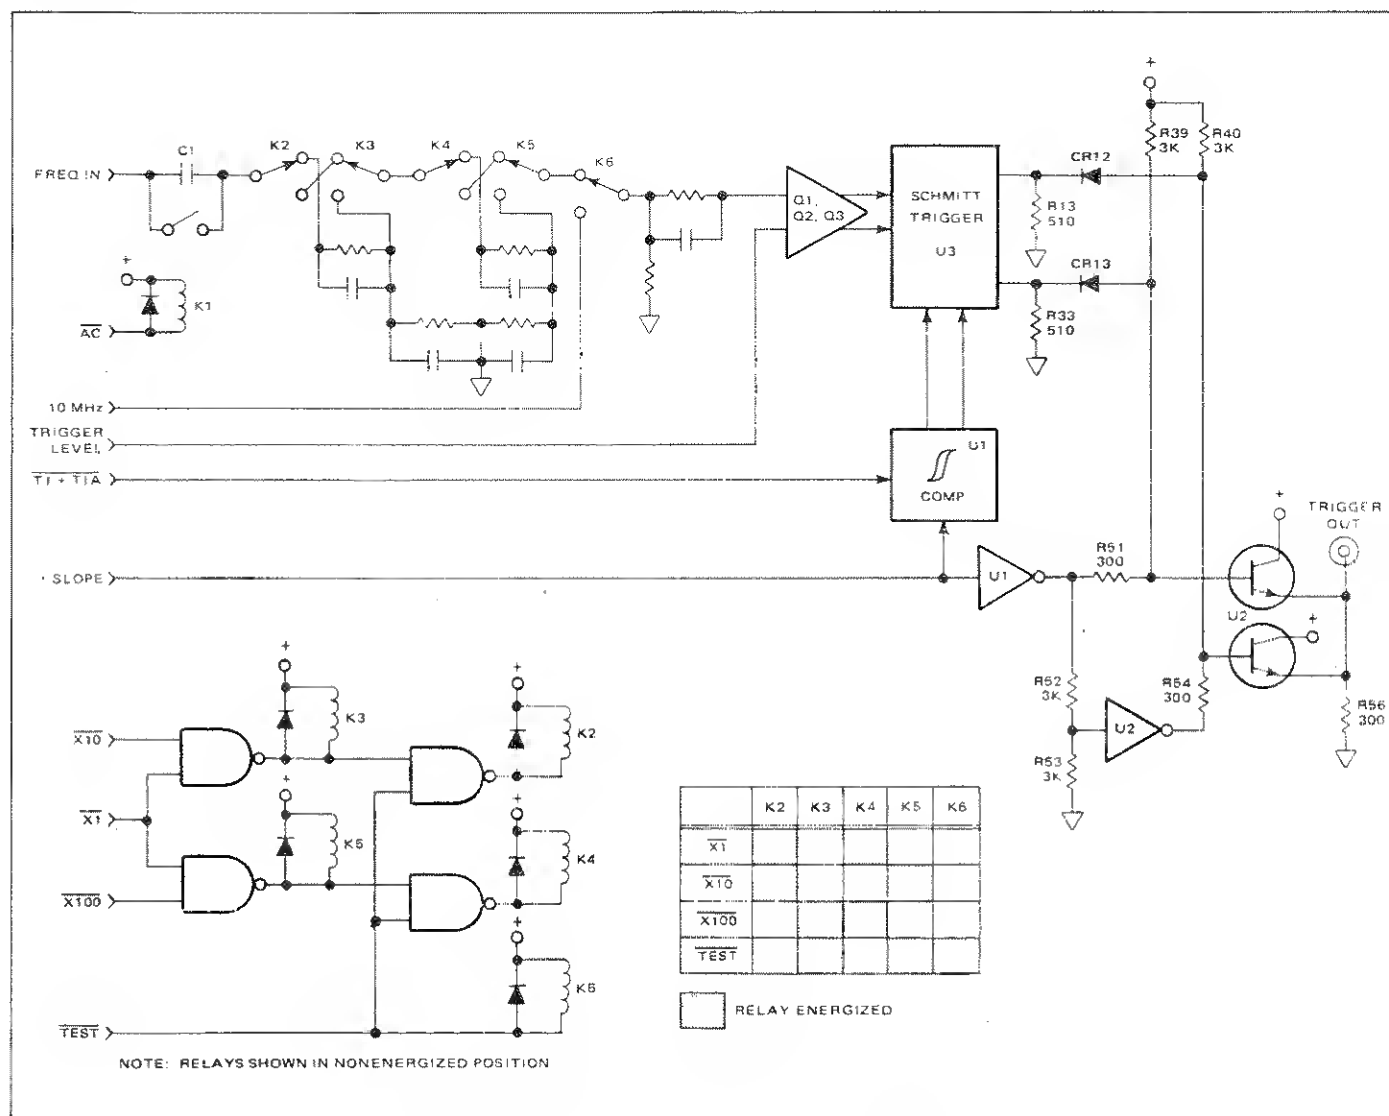

Figure 4.12 - Signal Conditioning Block Diagram
4.4.2.3 The conditioner circuitry, shown simplified in figure 4.12, consists of a DC bypass, an attenuator, an amplifier, a Schmitt trigger, a hysteresis compensation circuit, and a slope selection circuit.